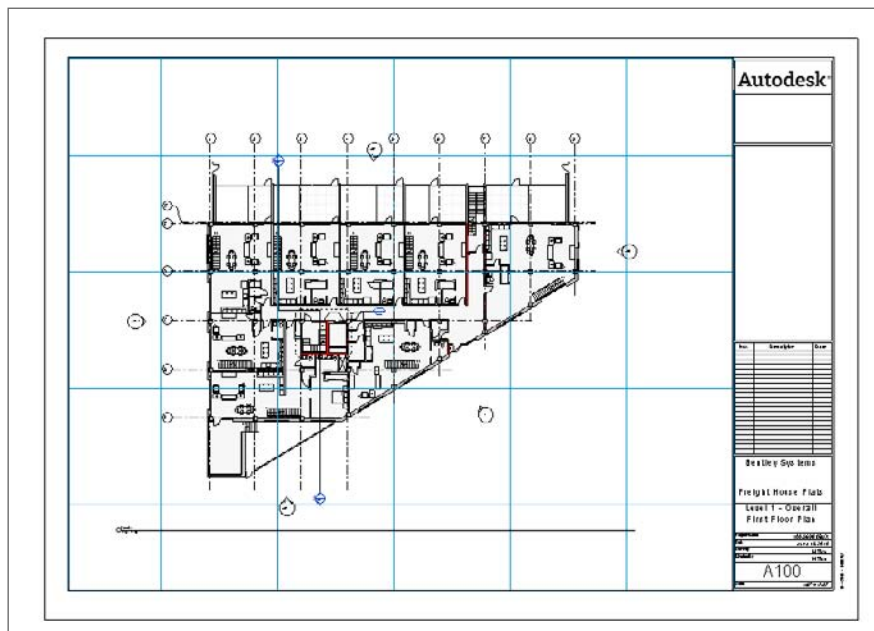

Figure 14.23
8. For the move endpoint, select a guide grid location. Use Figure 14.23 as a reference.